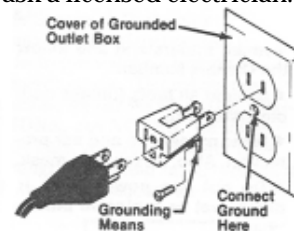

Figure 2
- If you have a two-hole receptacle, use a **temporary** adapter to plug in the Dust Collector. (See Figure 2.) The grounding lug or wire on the adapter **MUST** be connected to a permanent ground such as a grounded outlet box. The temporary adapter should be used only **until** a properly grounded outlet can be installed. **(Adapters are not allowed in Canada.)**